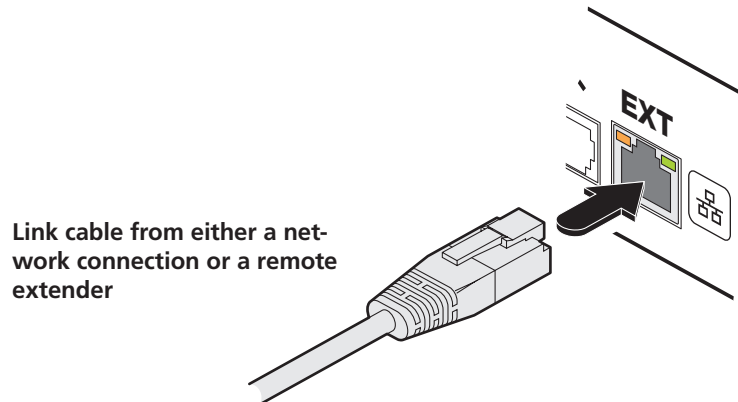

Figure 3-4. Connecting a CAT 5, 5e or 6 link cable to the EXT port.
- 2 Connect a CAT 5, 5e or 6 link cable to the port labeled EXT. See Figure 3-4.